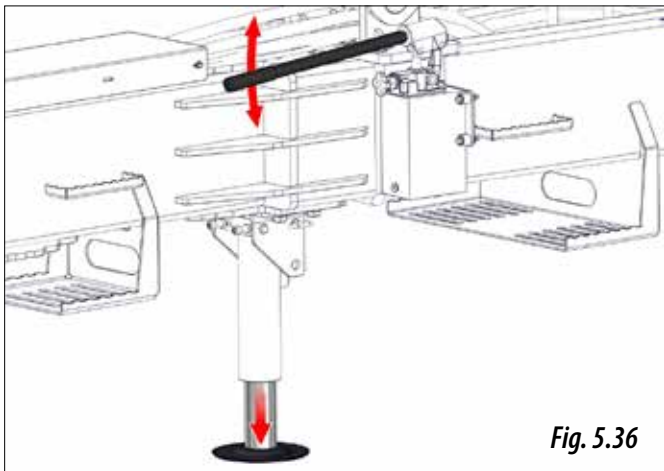

Fig. 5.36
- 3- Adjust the height of the foot by moving the lever (Fig. 5.36).